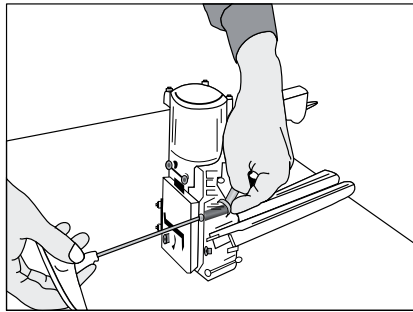

Figure 16
2. Loosen screw and nut with a 8 mm spanner wrench and a 4 mm Allen wrench. (See Figure 16)